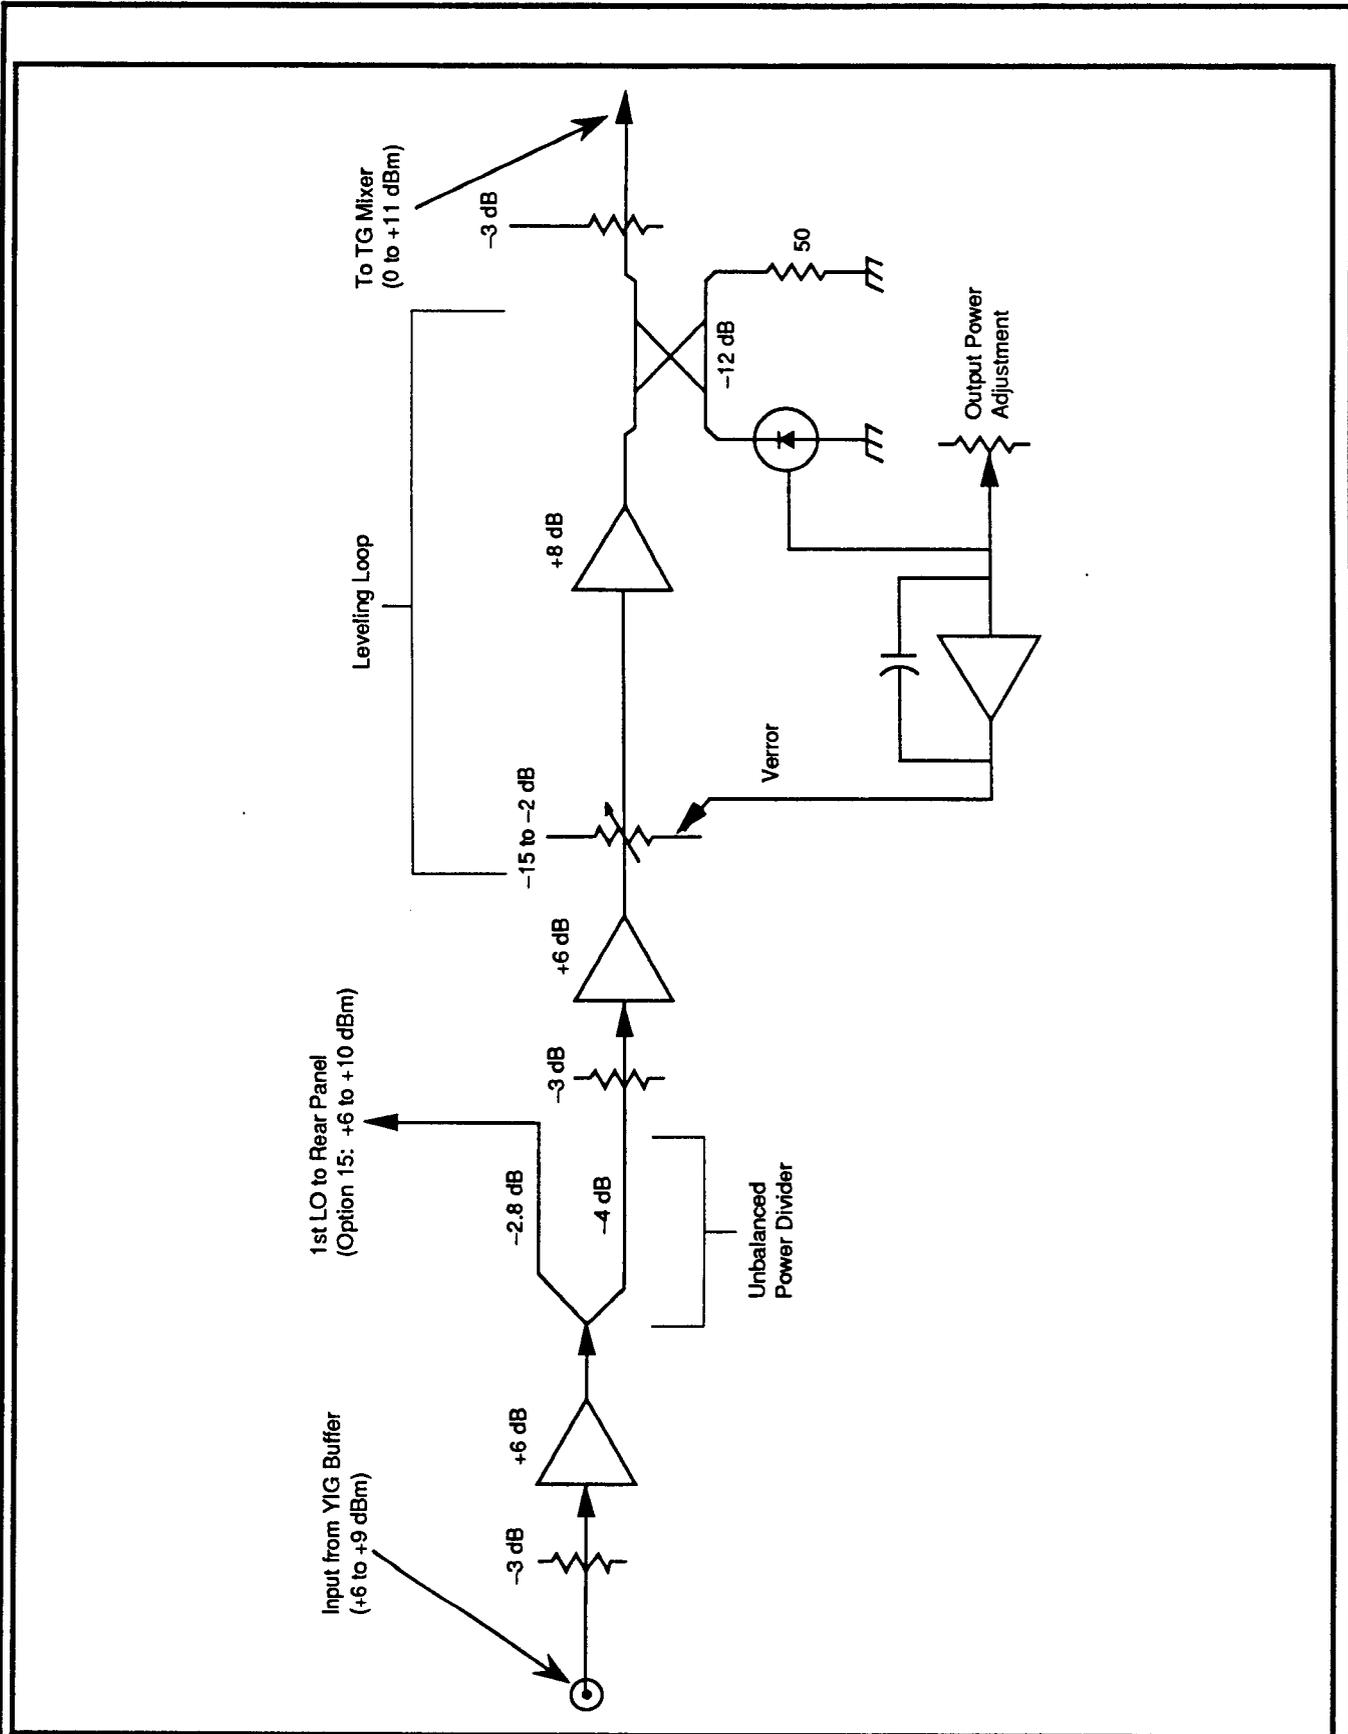

Figure 21. Isolation Amplifiers block diagram
The Tracking Generator receives the 1st LO (2110 MHz to 3910 MHz) from the Spectrum Analyzer's 1st LO Buffer Amp (at a power level of +6 dBm to +9 dBm) through an SMA connector. A 3 dB attenuator is placed between the input and the first isolation amplifier. This amplifier provides a forward gain of +6 dB and a reverse gain of -25 dB. The amplifier's output (LO) drives an unbalanced power divider. See Figure 21.